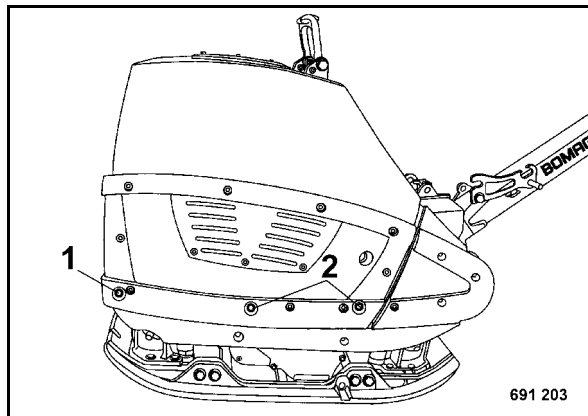

Fig. 72
- Loosen the engine hood fastening (1) (Fig. 72) on both sides and remove the hood fastenings on both sides.